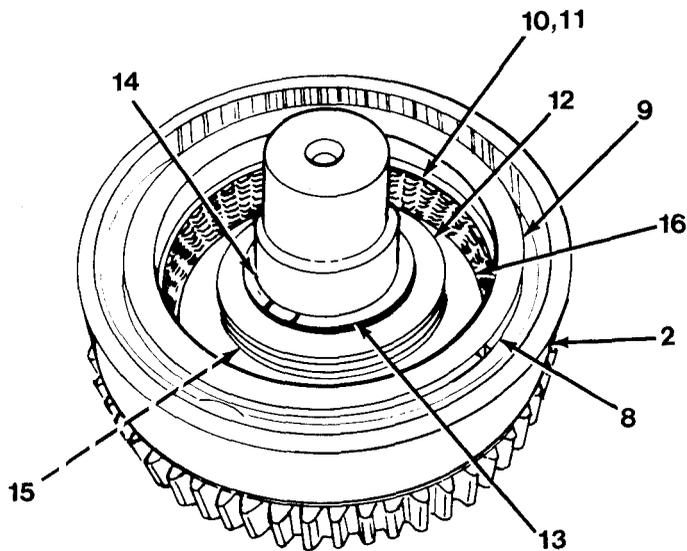

Figure 11-12
21. Remove snap ring (8), clutch plate retainer (9), six clutch plates (10) and clutch separator plates (11, Figure 11-12).
22. Compress four springs (12) and hold down to remove snap ring (13).
23. Remove snap ring (13) from clutch shaft assembly (2).